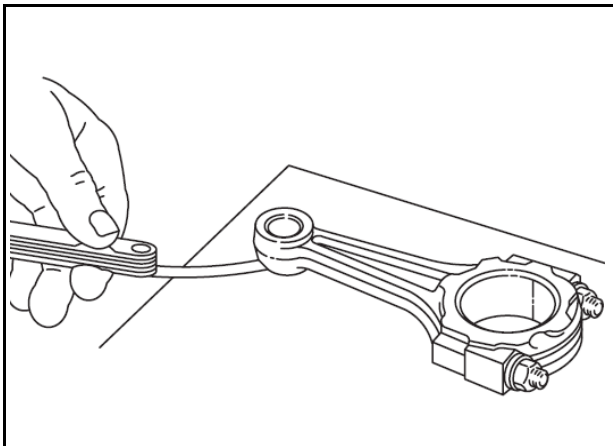

Fig. 9 -Checking Connecting Rod
4. Check for bent or twisted connecting rod, Fig. 9.